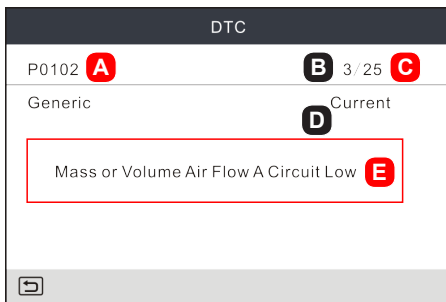

Figure 6-5
automatically read the SAE-standard DTCs and a screen similar to Figure 6-5 will appear.
- If some DTCs are found, the screen will display the DTCs (Refer to Figure 6-5).